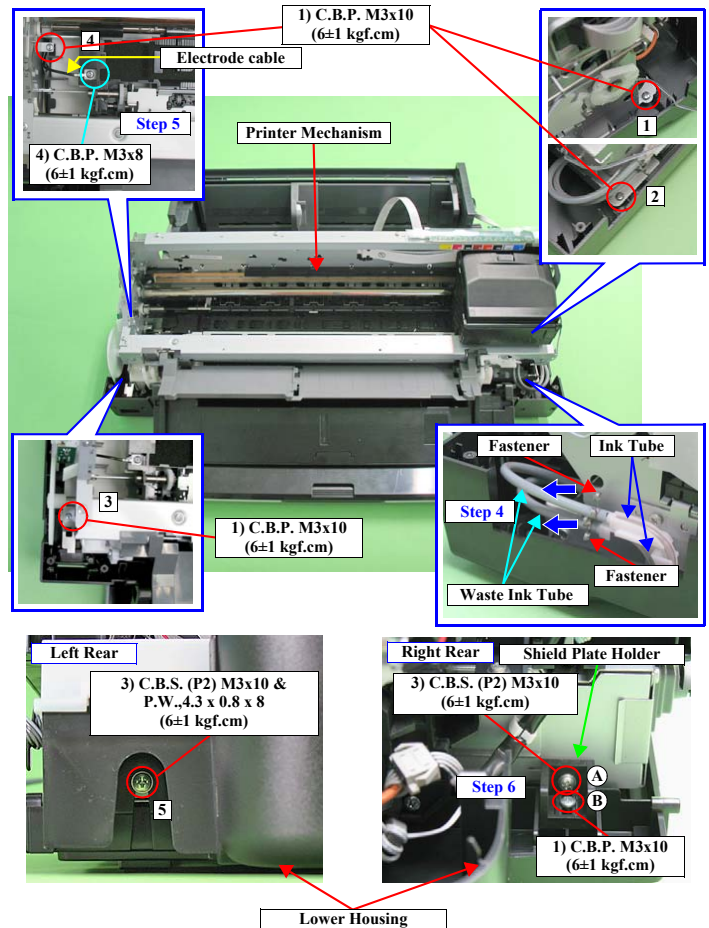
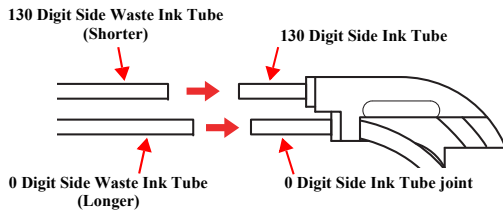

Figure 4-62. Screws that Secure the Printer Mechanism
Figure 4-64. Installing the Ink Tubes
Insert the Waste Ink Tube as shown in the figure below, and secure it firmly with the Fastener. (refer to Figure 4-62 & Figure 4-64)
Install the Printer Mechanism to the Lower Housing as follows. (refer to Figure 4-62)
- Place the Printer Mechanism on the Lower Housing and secure the Shield Plate Holder and the Printer Mechanism with the screw (A).
- Secure the Printer Mechanism and Lower Housing with screws (x5). (Tighten the screws in the order shown in Figure 4-62)